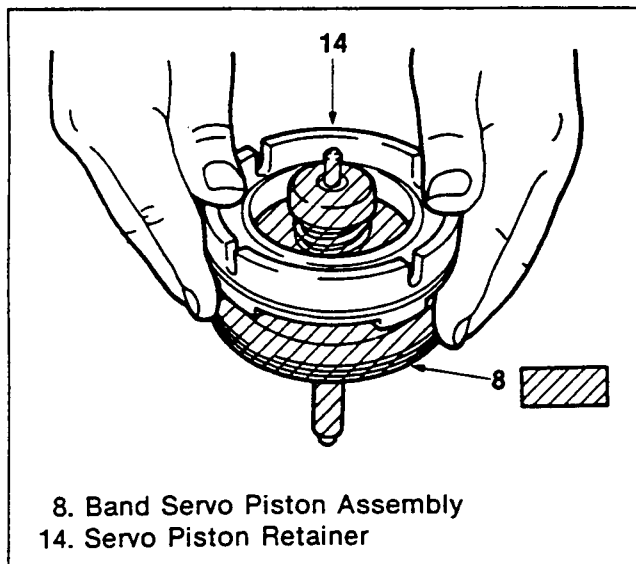

Figure 222. Band Servo Piston Installation
6. Using both hands, push the band servo piston assembly forward and fit it to the servo piston retainer (figure 222).